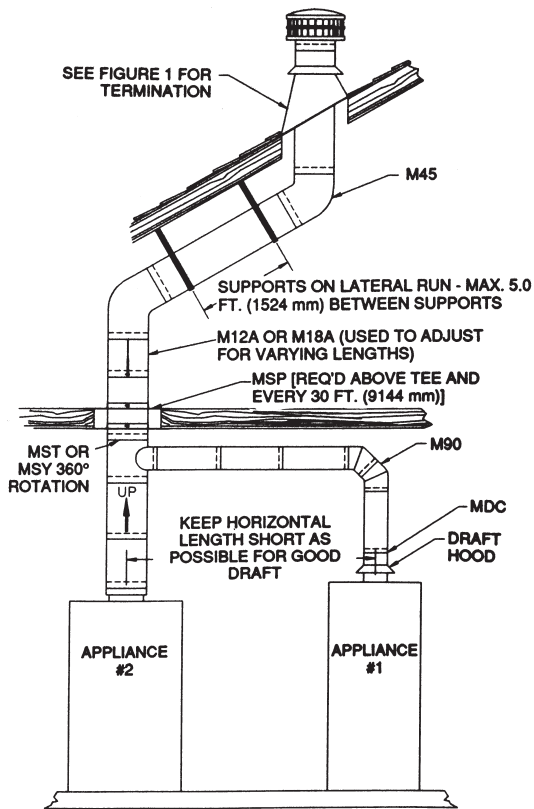

FIGURE 4
9. If the installation requires two appliances to terminate into a common B-Vent, a B-Vent wye or tee is used. It is recommended that the higher output appliance, normally the furnace, insert into the bottom of the wye or tee and the other appliance attach to the top. To minimize the length of run and to provide maximum flexibility in these installations, a swivel tee (MST) or swivel wye (MSY) is used. These components provide 360 degrees of rotation to position the tap in the proper orientation (See Figure 4). NOTE: Consult the Metal-Fab catalog for the many variations of wyes and tees available.
12. If your installation requires a change in diameter due to vent capacity, a B-Vent increaser (MI) is available. Installation is the same as standard B-Vent Sections.